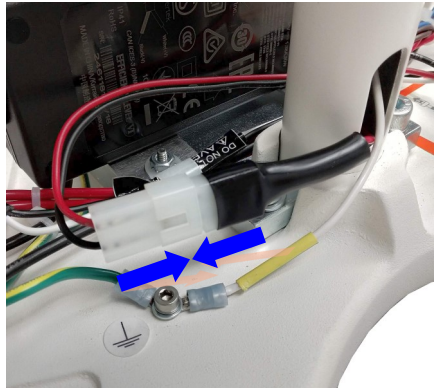

Figure 11B: Power supply connections.
- Connect the receptacle coming out from the bottom of the post to the power supply Harness. **CAUTION:** make sure the connectors are fully engaged. See Figure 11B.